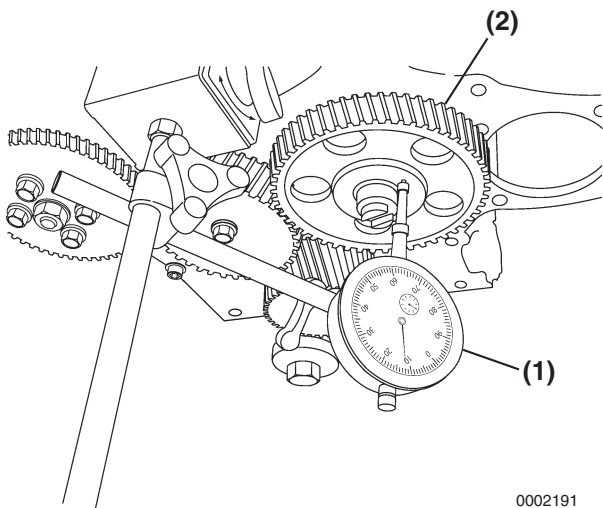

Figure 4-2-46
- **Method A:** Install a dial indicator (**Figure 4-2-46, (1)**) on the cylinder block. Move the camshaft and gear (**Figure 4-2-46, (2)**) in and out to measure the end play. Record the measurement. See "3-2 Engine Service Standard" section for the service limit.